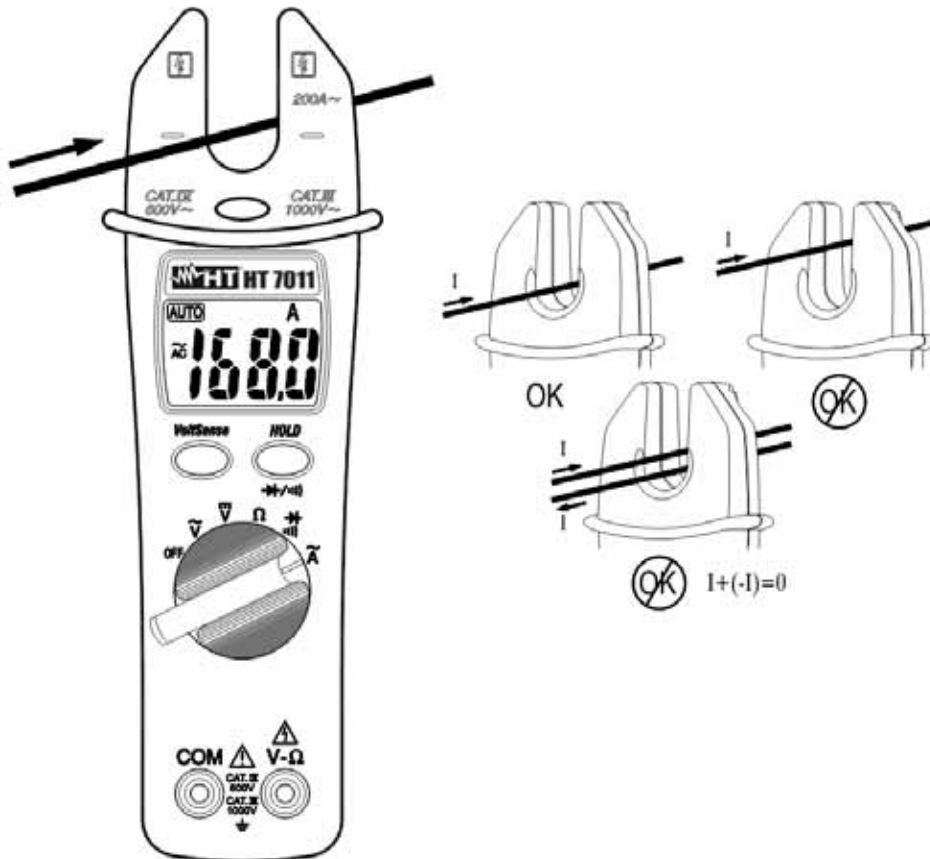

Fig. 5: Taking AC current measurement
2. Put the conductor to be tested inside to the “open” clamp jaw (see Fig. 5), then the current value is shown at display.